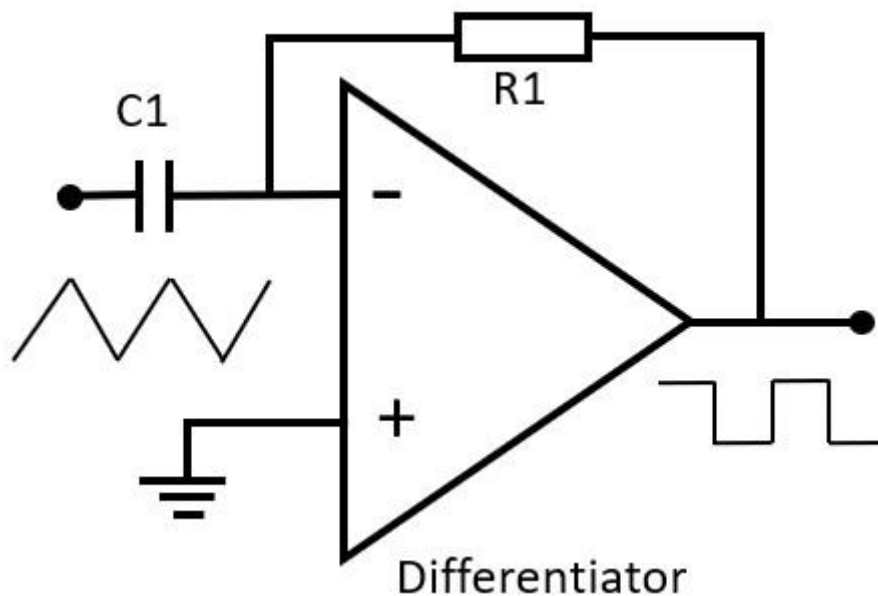

Figure 8: Differentiator.
7. The Differentiator is designed so the output of the circuit is proportional to the rate of change to the input. The rate of change is governed by C_1 and R_1 (Figure 8).